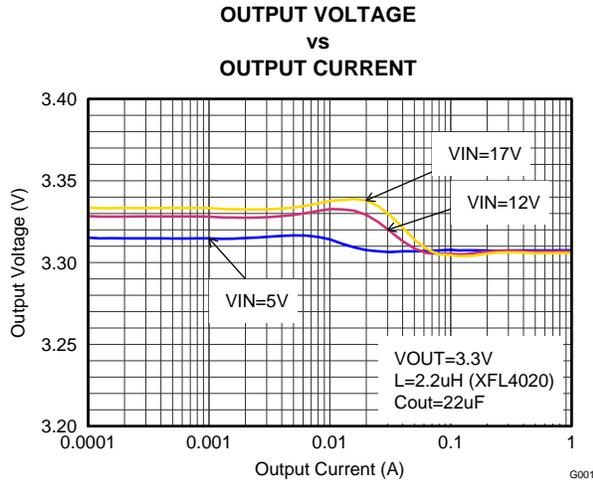
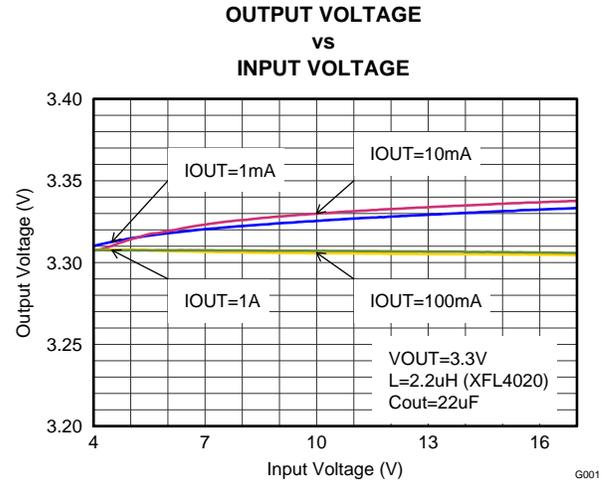

Figure 17. Output Voltage Accuracy (Load Regulation)
Figure 18. Output Voltage Accuracy (Line Regulation)
- (1) The device is still functional down to Under Voltage Lockout (see parameter V_{UVLO}).
- (2) Current into $AV_{IN} + PV_{IN}$ pin.
- (3) This is the static current limit. It can be temporarily higher in applications due to internal propagation delay (see Current Limit And Short Circuit Protection section).
- (4) This is the voltage regulated at the FB pin.
- (5) This is the accuracy provided by the device itself (line and load regulation effects are not included). For the fixed voltage versions the (internal) resistive divider is included.
- (6) Line and load regulation depend on external component selection and layout (see Figure 17 and Figure 18).